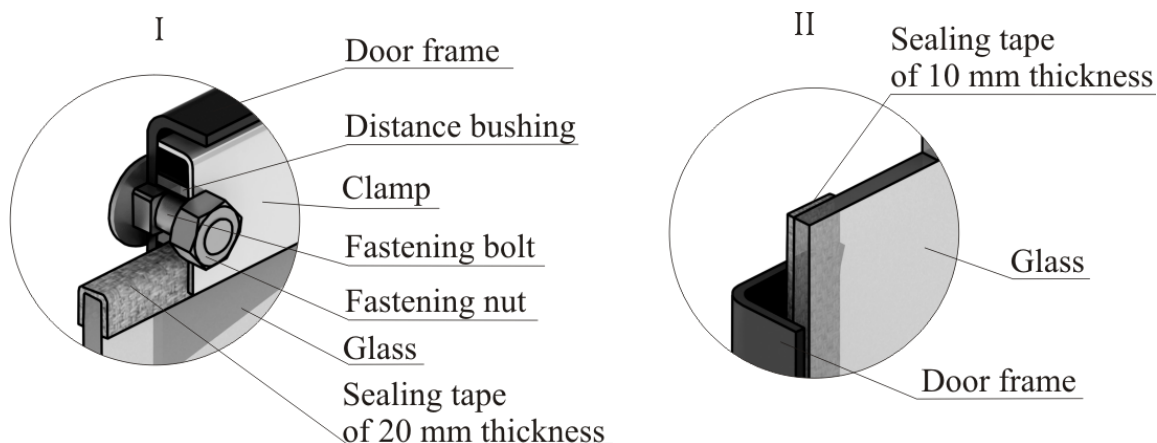

Figure 16. Fastening of translucent screen of the «Vitra» model door
3. Take new glass and if it doesn't have thread sealing tape stick them: tape of 20 mm in width is stuck from the top and from below the glass, in a «II» shape (figure 16.I), tape of 10 mm in width is stuck vertically, along the lateral sides of the glass (figure 16.II).
4. Insert the glass into the stop, at that the tape stuck from the lateral sides (vertical) shall be pressed between the glass and the door frame (figure 16.II).
✓ *ATTENTION! Nuts fastening the clamp are screwed to the mounting bolts through the remote plugs (Figure 16.I).*